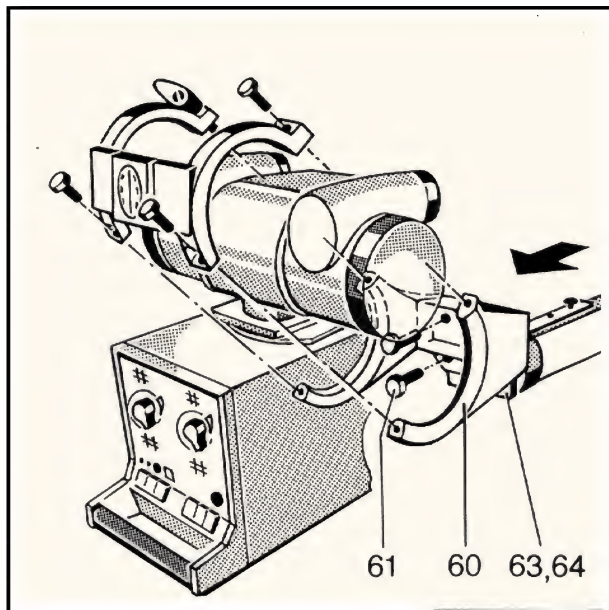

Fig. 15
Dismount X-ray tube from GE trunnions (Fig. 15/item 60). Mount trunnions to tube support arm (item 63) with screws (item 61).
**Note:** The center of gravity of the tube-collimator assembly should lay in the rotational axis of the tube support arm. If necessary, the distance focus-column centre may be increased by inserting shims (item 64). Mount tube to trunnions and tube support arm and connect cable to plug of collimator.